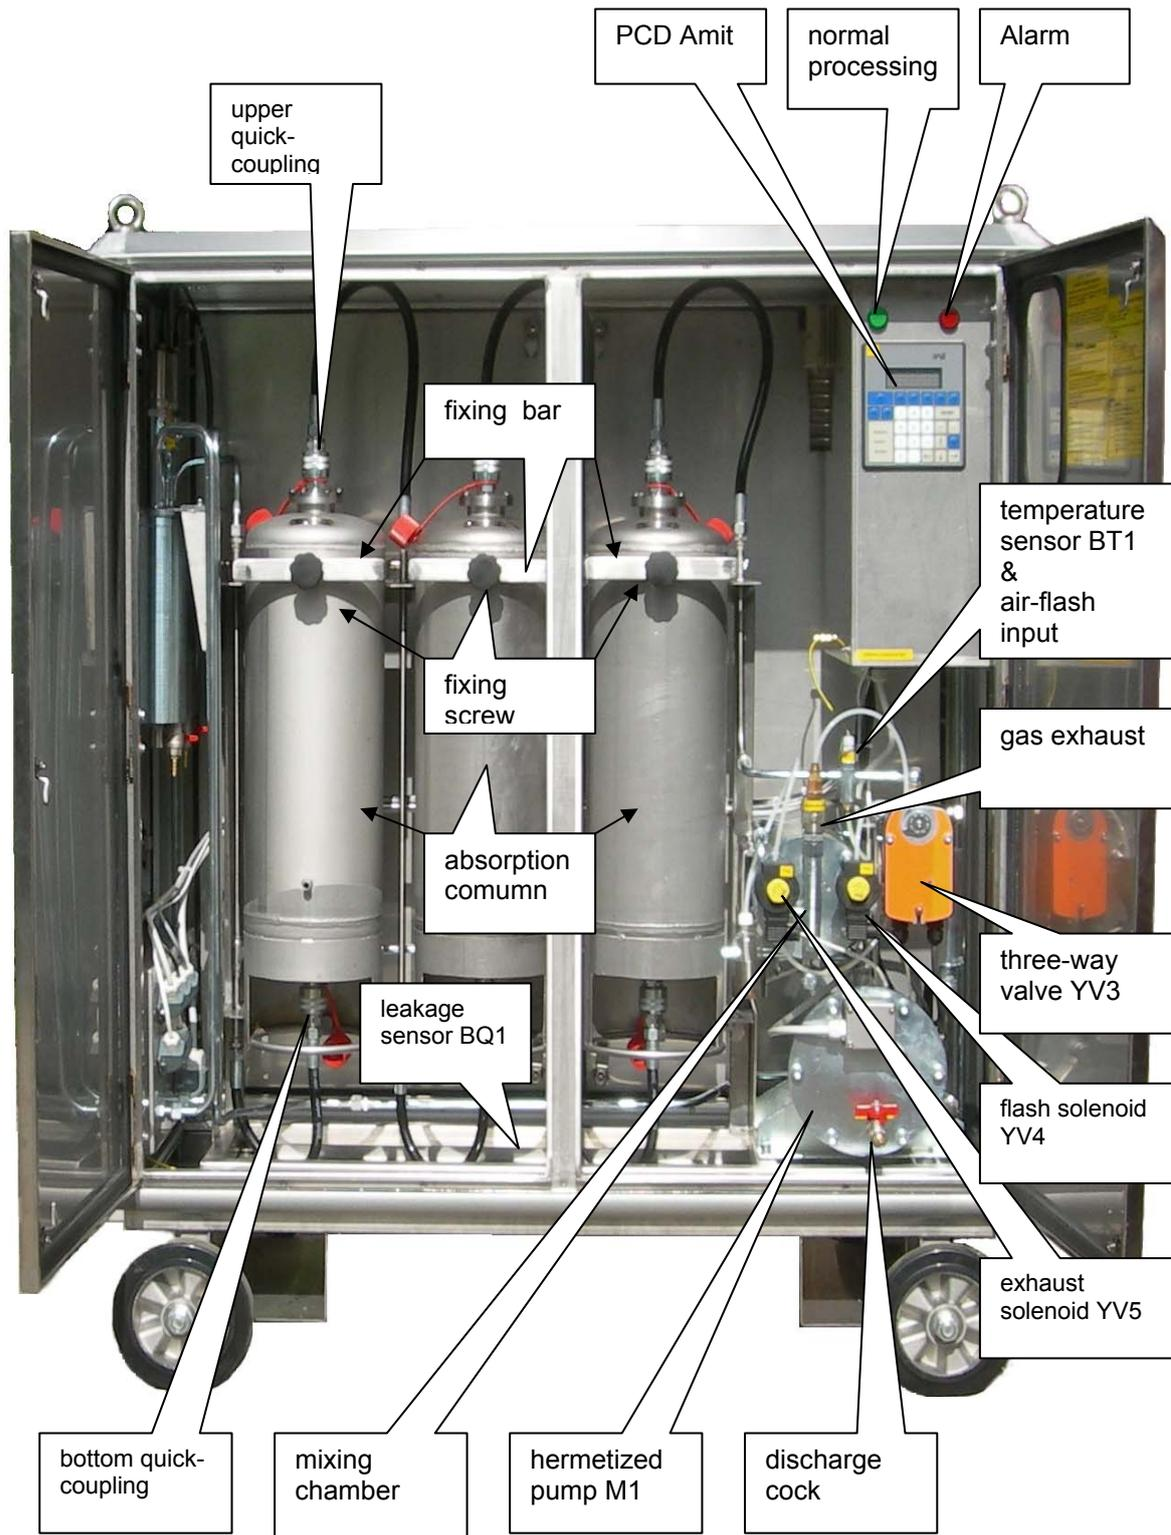

**Fig.1 Installation**
The dehydrator ADT 2012 is hydraulically connected to the transformer as shown in Fig.1, 2 and 3.
- attach the oil-inlet set (coupling, insulation insert and servo valve **YV1** See Fig.1 to the lower access of the transformer (i.e. bottom filter press cock), then connect to the open end of the servovalve to the inlet hose **H1** (marked by brown belt), then connect the opposite end of the hose **H1** to the socket of quick-coupling **QC1** (marked by brown strip)
- attach the oil-outlet set (coupling, insulation insert and servo valve See Fig.1 to the upper access of the transformer (i.e. upper filter press cock at the end), then connect to the open end of the servovalve **YV2** the out-let hose **H2** ( marked by yellow belt at the end), then connect the opposite end of the hose **H2** to the socket of quick-coupling **QC2** (marked by yellow strip)